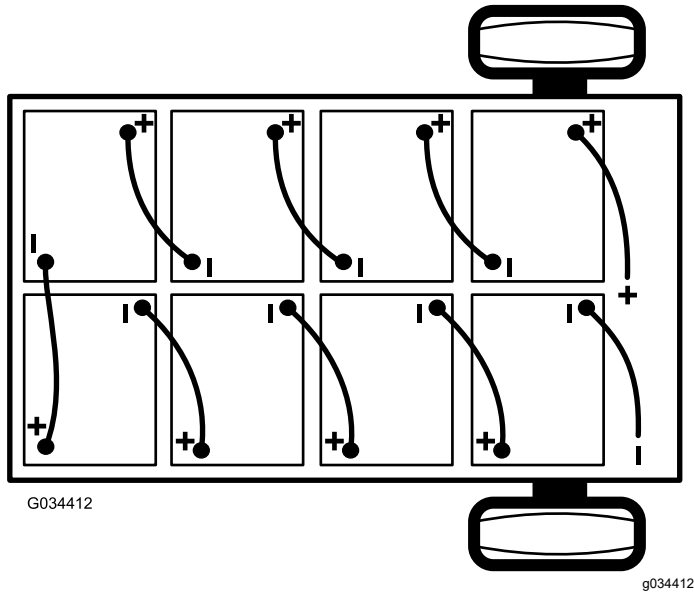

Figure 40
2. Disconnect the main negative-battery cable (black) that connects the bank of batteries to the ground point of the machine (Figure 40).
3. Disconnect the main positive-battery cable (red) that connects the bank of batteries to the main contactor of the machine (Figure 40).
**Note:** Pay attention to the battery polarity when installing the new batteries (Figure 40).
6. Connect the batteries together as shown in Figure 40 with the battery-interconnect cables that you removed in step 1.
2. Connect the main positive-battery cable (red) between the bank of batteries and the machine (Figure 40).
3. Connect the main negative-battery cable (black) between the bank of batteries and the machine (Figure 40).